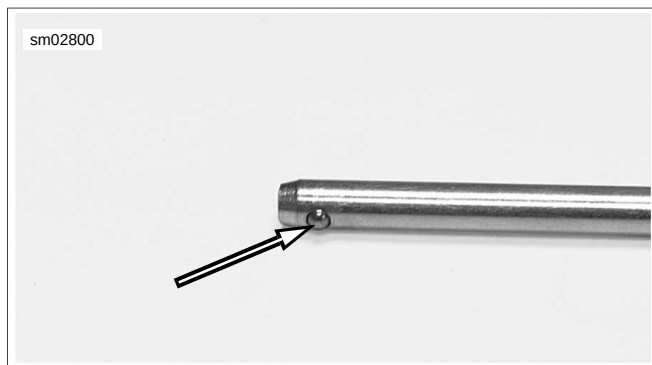

Figure 3-129. Balance Shaft Retention Pin
See Figure 3-129. Inspect tip of **BALANCE SHAFT RETENTION PINS** (Part No. HD-44062) after removal. If the ball at the end of the tool should separate and become loose in the engine assembly, severe engine damage could occur.
10. See Figure 3-129. Remove both balance shaft retention pins from front and rear shaft supports. Check that ball on tip of tool has not separated from pin.